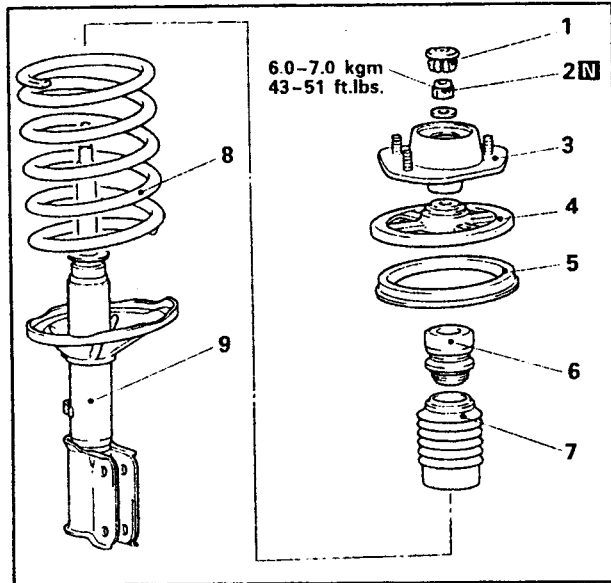

Fig. 10.4. — A dismantled spring strut.
Refer to Fig. 10.4 for the following operations, but note the following points:
- Fit the rebound rubber in the direction shown in Fig. 10.4.
- Fit the parts over the spring strut in accordance with the exploded view (Fig. 10.4).
- Fit the spring seat (4) and the upper strut bearing (3). A hole in the upper spring seat (4) and the lower spring seat (the built-in plate on the spring strut) must be aligned when the upper spring seat is fitted. To make sure that the alignment is correct, insert a metal rod of 10 mm diameter through the two holes before the piston rod nut is tightened.